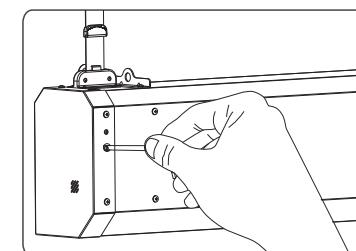

Figure 25
b.Lower limitation adjusting. Take off the knob from the hole and use the provided allen key to adjust (figure 25). A clockwise adjustment will extend the screen (The distance between the screen and installation position will increase) and a counter-clockwise adjustment will retract the screen (. The distance between the screen and installation position will decrease).